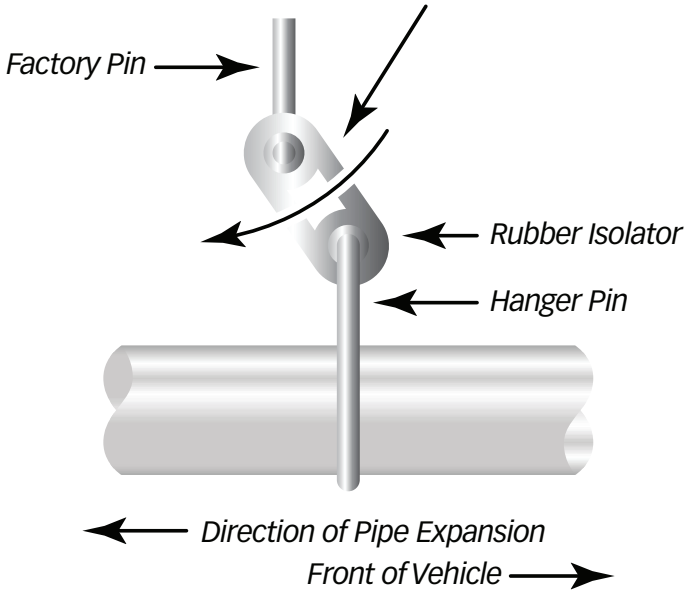

Figure 7
14. Your system includes two (2) Banks Power logos designed to complement the looks of your Ram truck. Position as shown in **Figure 7**.